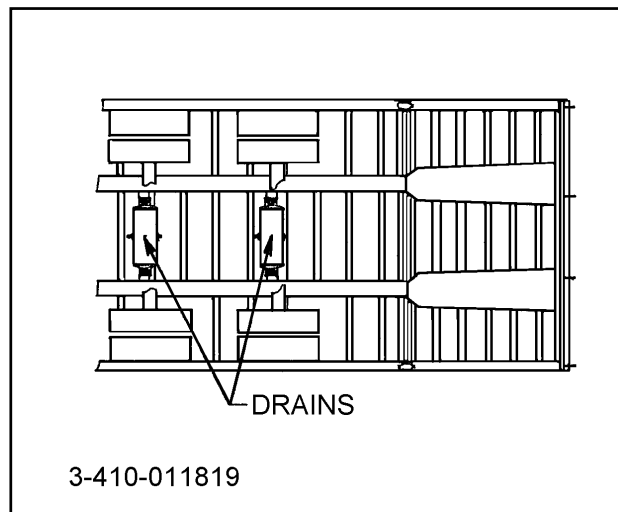

Figure 4-1 Drain Cock Locations
- Drain air reservoir daily. A drain cock on the bottom of each air reservoir vents the tank to drain collected water and oil. If held open, air pressure in the tanks is relieved, causing the emergency or parking brakes to be applied (See Figure 4-1).